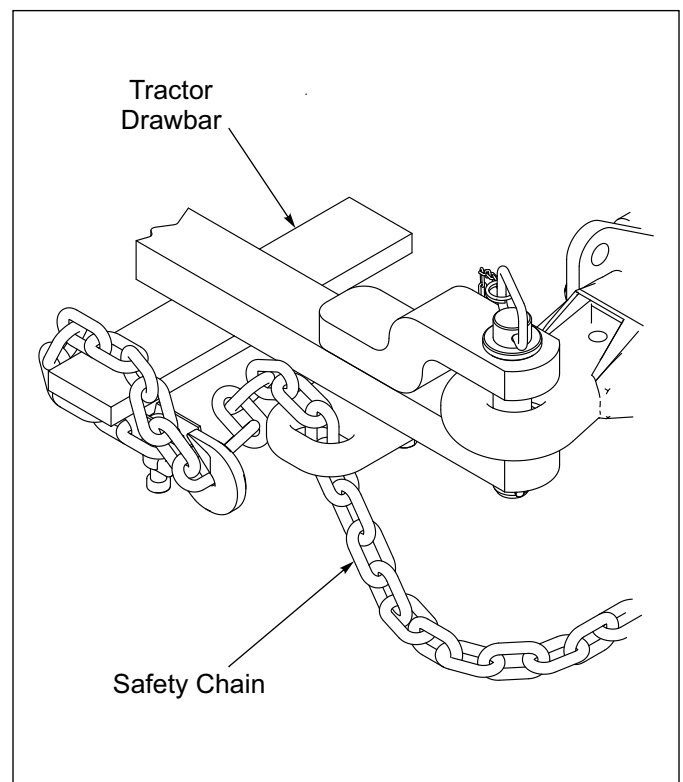

Figure 3-16: Safety Chain
- Attach the safety chain to the tractor drawbar (See Figure 3-16.) Provide only enough slack in the chain for turning. Do not use an intermediate chain support as the attaching point for the chain on the tractor. Do not pull the implement by the safety chain.